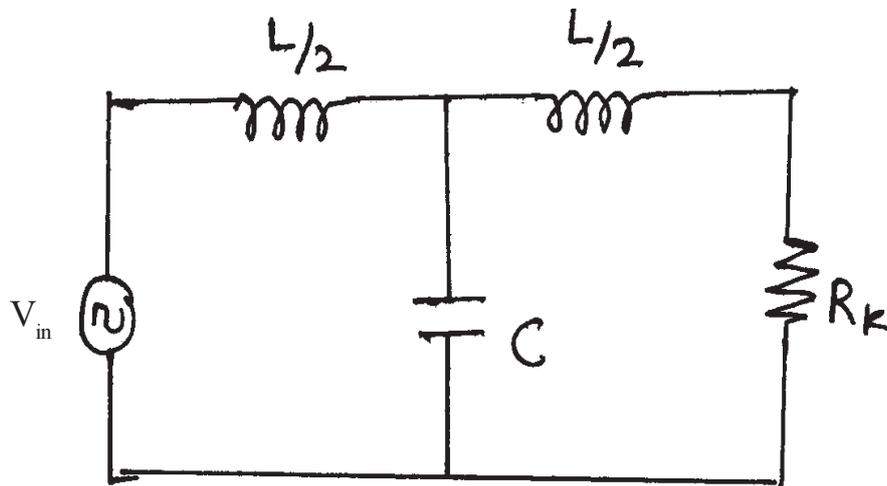

Fig 7 Q 12(c)
c) For a low pass filter shown in figure 7, calculate the sensitivity of the cut - off frequency (F_c) and the design impedance (R_k) with respect to L and C. [4]